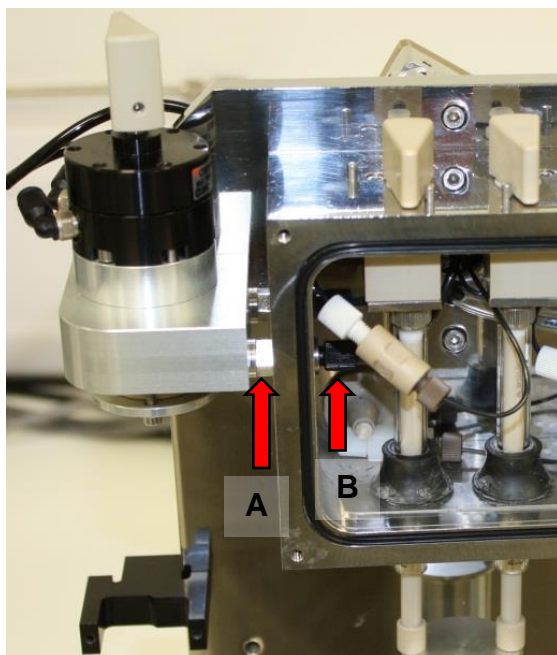

Figure 3.19 - Location of stop valve waste tube adaptor (A) and waste output tubing (B)
3. Grip the stop valve waste tube adaptor using a 10 mm wrench and unscrew the waste tubing (Figure 3.19) by hand. If required, loosen the waste tubing using needle nose pliers a little before removing by hand.
Note: The metal stop valve waste tube adaptor is located between the stop valve assembly and the water bath. The stop valve adaptor is attached to the flow output tubing (Figure 3.19), which is located inside the water bath.